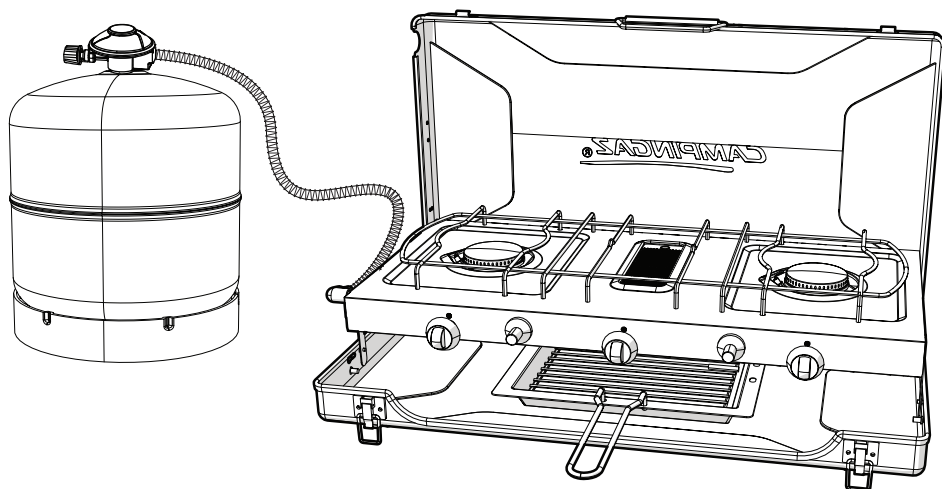

Fig.1
Hose length should not exceed 1.50 meter. It must be replaced if it is damaged or cracked, when required by national regulations or when the expiry date on the hose is passed. Do not pull on the hose or twist it. Keep the hose away from any parts that may become hot. (Fig. 1)
1. Place the gas cylinder on the ground, behind or next to the appliance. Keep it far away from parts that can become hot. (Fig. 1)